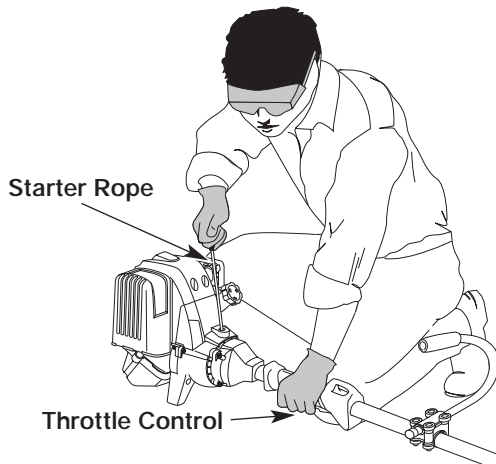

Fig. 10
7. With the unit in the starting position (Fig. 10) pull the starter rope briskly 5 times in the **FULL** choke (A) |←| position. If the engine attempts to run before the fifth pull, proceed to step 8.
5. With the unit in the starting position (Fig. 10), pull the starter rope briskly until the engine starts.
6. When the engine starts, move the choke lever to the **RUN** (C) |↑| position, and run at full throttle for 30 seconds, and up to one (1) minute in temperatures below 40°F (4°C).
1. Release your hand from the throttle control (Fig. 10). Allow the engine to idle.